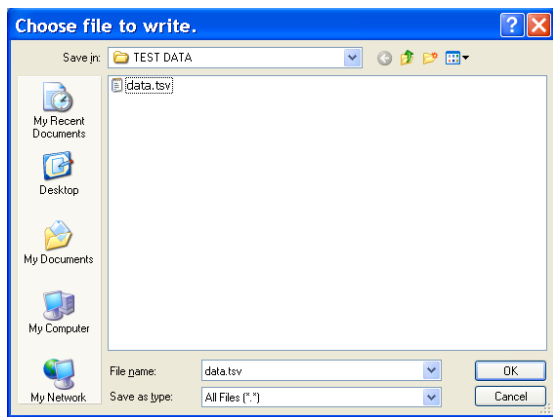

Figure 16. Load File Dialog Box:
- **Load data:** load previously captured data or example files in .tsv (tab separated values) format for analysis (see Figure 16). (The default location for example files is C:\Program Files\Analog Devices\AD7329\examples.)